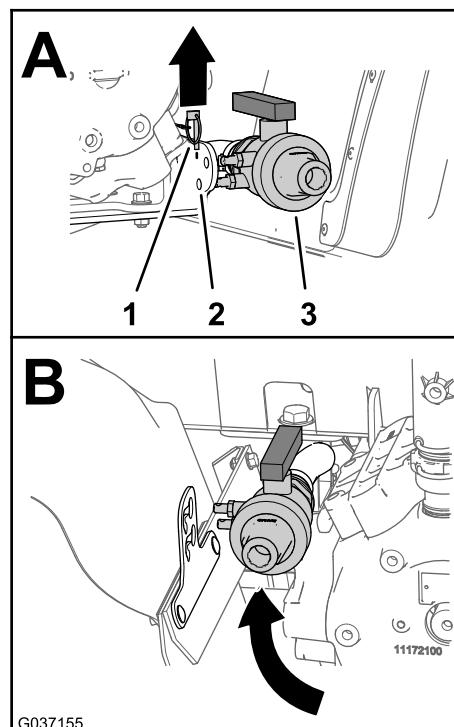

Figure 11
1. Remove the lynch pin that secures the drain valve to the sprayer-pump bracket (Figure 11).
2. Move the drain valve between the left, rear fender and the sprayer pump (Figure 11).